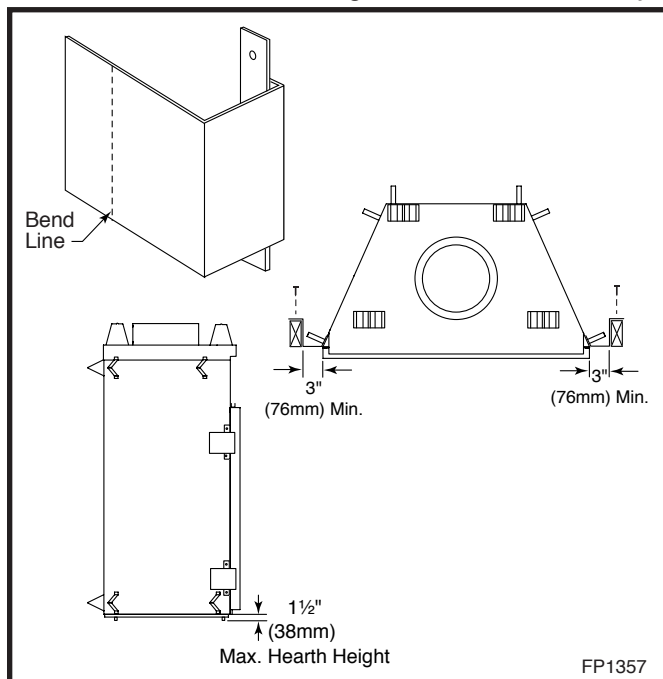

Fig. 5 Nailing flanges.
A hearth is not mandatory but is recommended for aesthetic purposes. We recommend a noncombustible hearth which projects out 12" (305mm) or more from the front of the fireplace. The hearth cannot exceed 1½" (38mm) in height from bottom of fireplace for ease of door accessibility. (Fig. 5)
2. The unit is shipped with four (4) nailing flanges mounted to the sides near the front corners. (Fig. 5)
4. Attach the fireplace nailing flanges to the frame as shown in Figure 5.